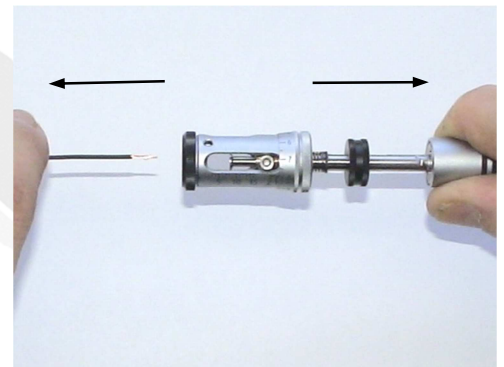

Fig. 7 Stripping
- Start the stripping action by pulling the grip and the cable, applying a consistent and constant pull. (Fig. 7)
This action will cause the stripping head to start turning and the blades will cut through the insulation until they reach the diameter which has been set. The constant pull between the grip and the cable then causes the insulation to be stripped from the wire. (Fig. 7)